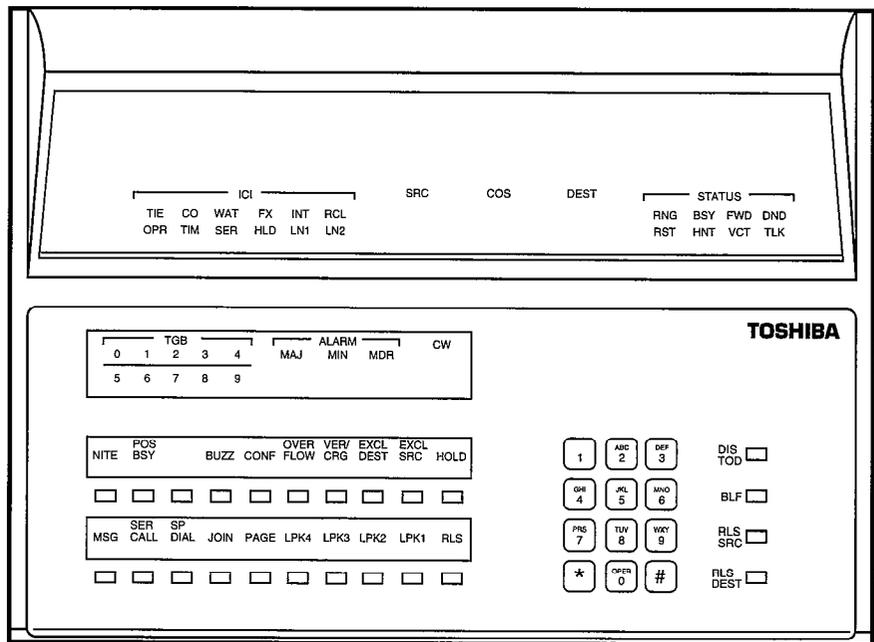

Figure 1— Attendant Console With Four **LPK** Buttons
*NOTE: When more than four **LPK** buttons are programmed on the attendant console, some of the features assigned to other attendant console feature buttons are either lost, or their positions shift. Figures 1, 2, and 3 show the button assignment of each attendant feature for each **LPK**-button configuration. The darkening of the buttons indicates that those buttons either have function changes, or their positions have shifted.*